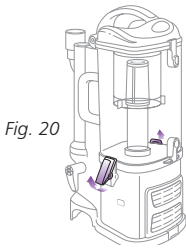

Fig. 20
- 1 Undo the latches on the sides of the dust cup by lifting them up and outwards to remove the dust cup from the motor base. **(Fig. 20)**